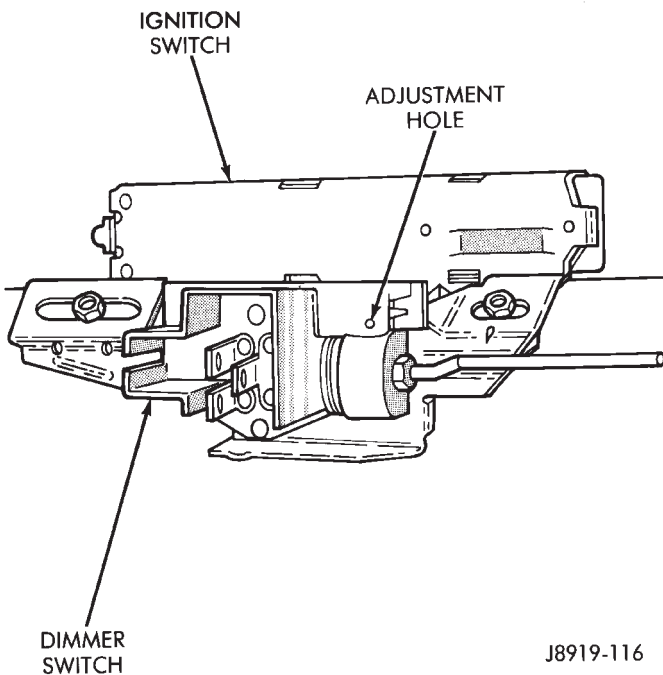

Fig. 16 Headlamp Dimmer Switch Adjustment
(1) Force the dimmer switch onto the actuator rod and install screws. **DO NOT tighten the retaining screws at this time.**
(2) Remove the tape attaching the actuator rod to the steering column.
(3) Adjust the dimmer switch as follows:
- compress the switch and insert a 3/32-inch diameter drill bit into the adjustment hole (Fig. 16);